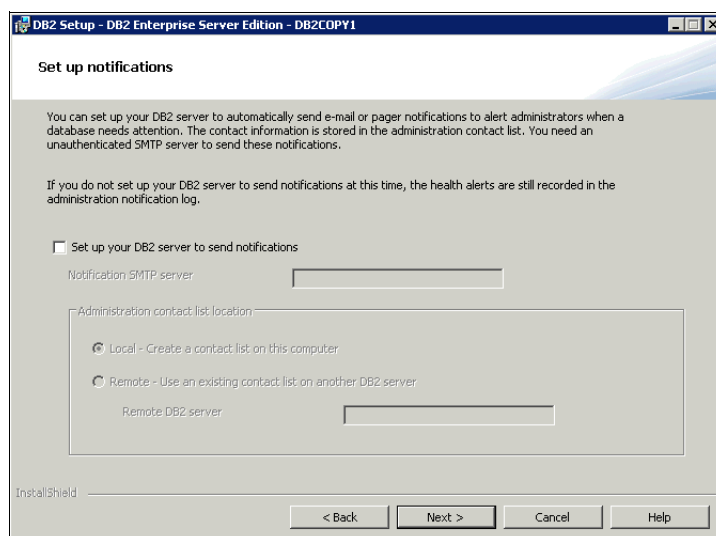

Figure 12-14 Health Monitor
13. Set the DB2 server to send notifications when the database needs attention (Figure 12-14). Ensure that **Set up your DB2 server to send notification** is clear and click **Next** to continue.